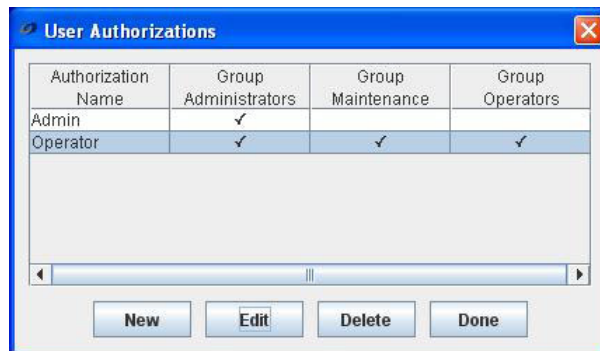

Figure 44. User Authorizations Screen
In the explanations used in this section, the group and user names are only examples (with the exception of the “Admin” user). Remember that Users and Groups are distinct. In Figure 44, for example, the user “Admin” is not synonymous with the group “Administrators”, though the names are similar. With the settings as shown in Figure 44, the user “Admin” and group “Administrators” do have the same privileges, since only “Group Administrators” is checked. If “Group Operators” was also checked, however, “Admin” would have all the privileges associated with the “Operators” group along with those associated with the “Administrators” group.
- To configure user permissions, log on as an authorized user with Admin rights and select *Edit > User Authorizations* to call up the screen shown in Figure 44.